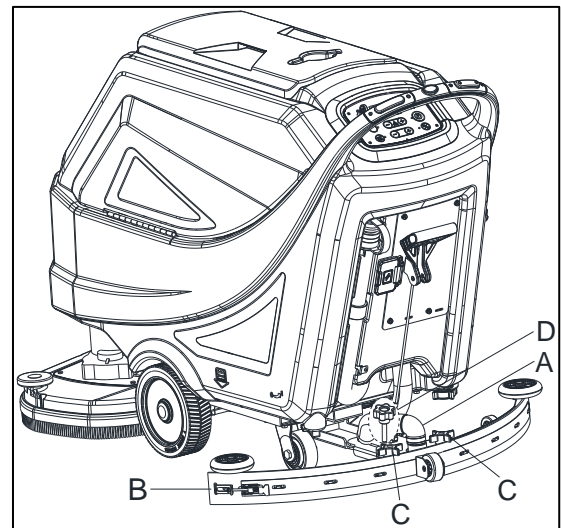
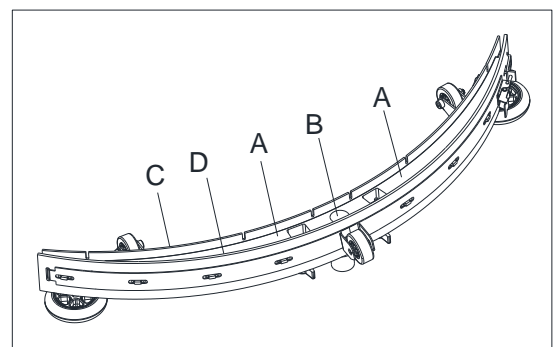
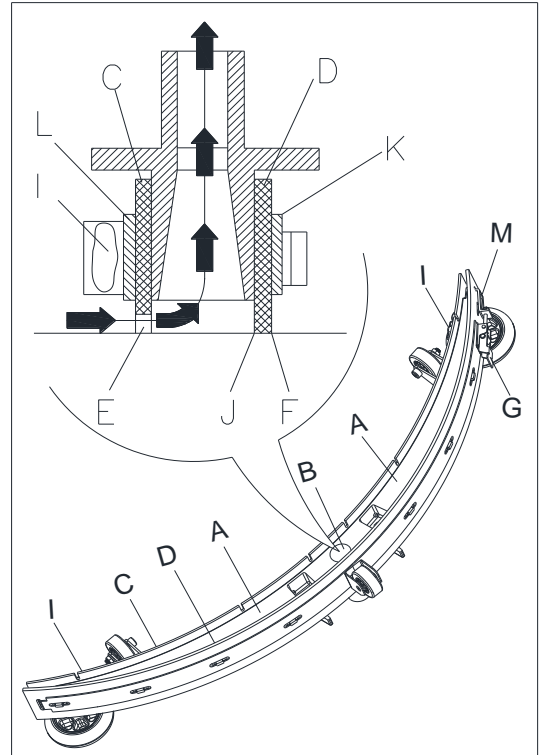

Figure 24
Figure 25
Figure 26
4. Loosen the knobs (C, Figure 24) and remove the squeegee (B).
5. Disconnect the vacuum hose (A) from the squeegee.
6. Clean the steel or aluminum squeegee (Figure 25). Clean the compartments (A) and the hole (B) especially. Check the front blade (C) and the rear blade (D) for integrity, cuts and tears; if necessary replace them (see the procedure in the following paragraph).
2. Check that the edges (E, Figure 26) of the front blade (C) and the edges (F) of the rear blade (D) lay down on the same level, along their length; if necessary adjust their height according to the following procedure:
- Remove the tie rod (G), disengage the fasteners (M) and adjust the rear blade (D), then engage the fasteners (M) and install the tie rod (G).
- Loosen the knobs (I) and adjust the front blade (C), then tighten the knobs.
3. Check the front blade (C) and rear blade (D) for wear, cuts and tears; if necessary replace them according to the following procedure. Check that the front edge (J) of the rear blade (D) is not worn; if necessary, turn the blade over to replace the worn edge with an integral one. If the other edges are worn too, replace the blade according to the following procedure:
- Remove the tie rod (G), disengage the fasteners (M) and remove the retaining strip (K), then replace the rear blade (D). Assemble the blade in the reverse order of disassembly.
- Unscrew the knobs (I) and remove the retaining strip (L), then replace the front blade (C). Assemble the blade in the reverse order of disassembly. After the blade replacement (or turning over), adjust the height as shown in the previous step.
4. Connect the vacuum hose (A, Figure 24) to the squeegee.
5. Install the squeegee (B) and screw down the knobs (C).
6. If necessary, adjust the squeegee balance adjusting knob (D).